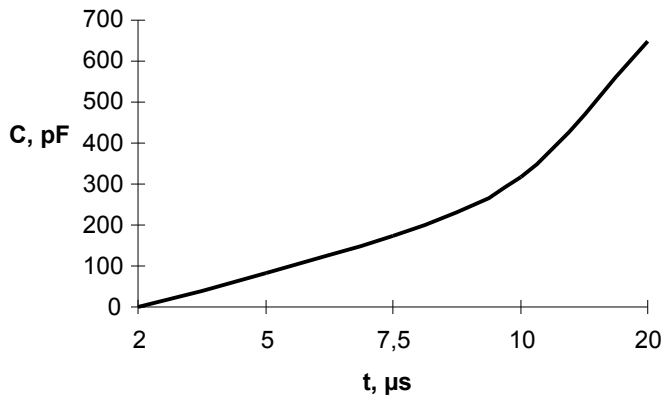

Figure 9 – Saturation protection turn-on delay time versus trimming capacitance nominal C_b
| Non-saturation protection operation delay time | t_{BLOCK1} | μ s | 2 | | | Set by consumer; ref. to Figure 9 |
In order to increase protection operation delay it is recommended to install the capacitor with nominal shown at Figure 9. Initially capacitor of 100 pF is installed that corresponds to delay time 5 μ s (typ.).
- set up protection operate delay time by capacitor Cb in compliance with Figure 9;